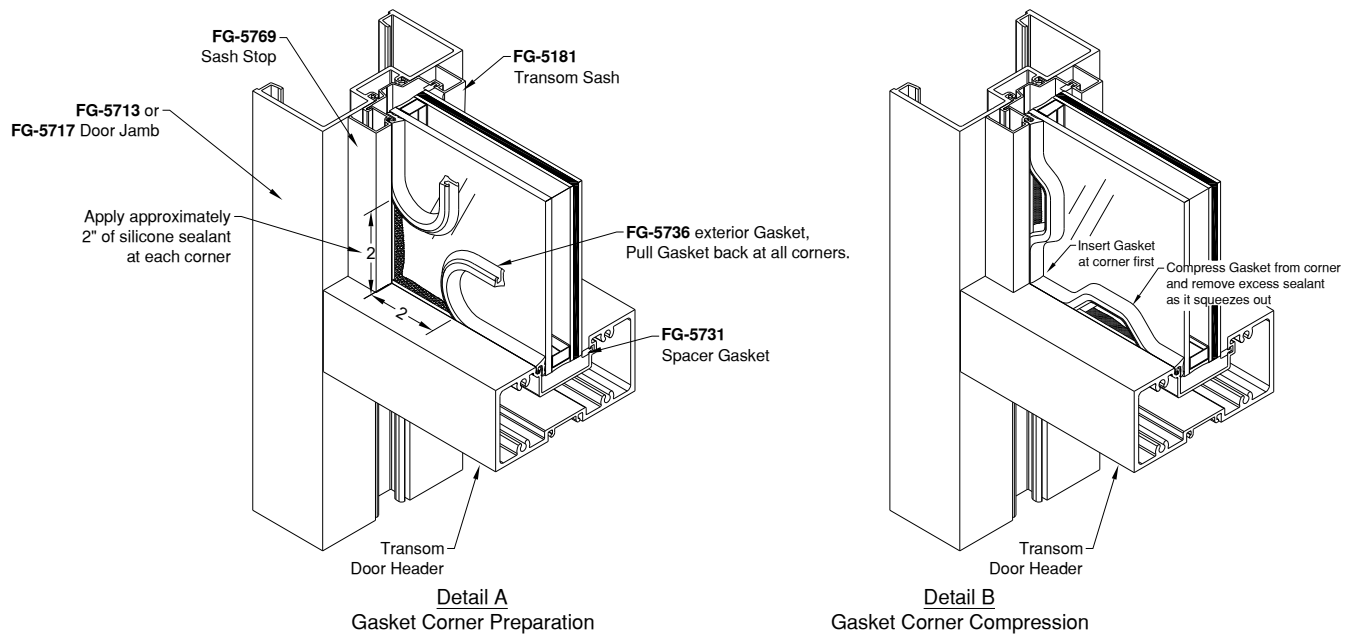

Figure 29: Exterior Gasket Installation
12.7.5 After gaskets are pressed into place, pull gasket from pocket at corners as shown in *Figure 29, Detail A*. Clean glass and gaskets a minimum of 2" from each end with iso-propyl alcohol.
12.7.6 Apply sealant and push Gasket into reglet, compressing from the corner first as shown in *Figure 29, Detail B*. Clean squeeze out immediately.